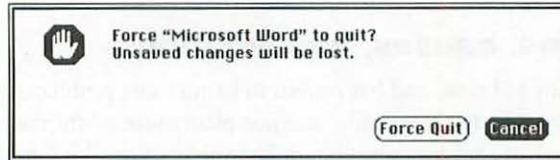

Figure 5.3 Forcing an application to quit is one way to release a frozen screen.
3. If \mathcal{H} +period doesn't work, force your application to quit by using \mathcal{H} +Option+Escape. This works in the Finder as well as in any other application. A warning that unsaved changes will be lost will appear, and then give you the option to force a quit or to cancel (see Figure 5.3). These aren't the greatest of options; forcing your application to quit will result in the loss of any work you did since the last time you saved, and pressing Cancel returns you to a frozen screen. Unfortunately, you don't have much of a choice at this point.
5. Sometimes hitting the Force Quit button and evoking the message shown in Figure 5.3 will do nothing—the Force Quit dialog box also freezes. If your screen is still frozen, hit the restart switch, located on the front or side of most Macs, and on the back of PowerBooks.